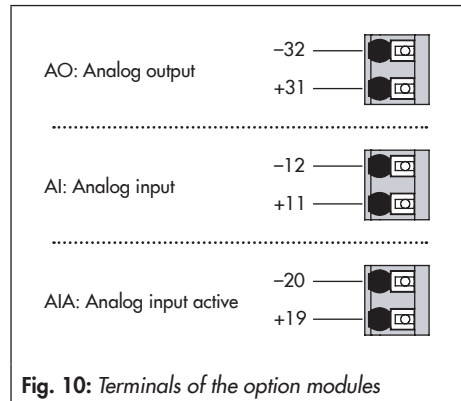

Fig. 10: Terminals of the option modules
7. Connect the wiring of the option module as shown in Fig. 10.